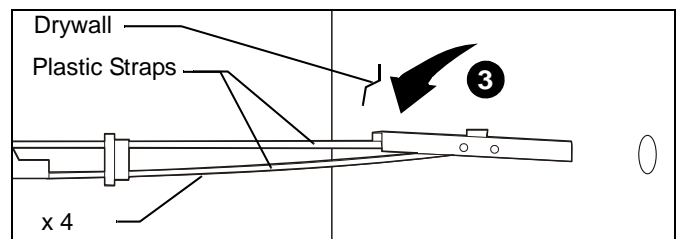

Figure 5
3. Hold metal channel on Toggler® 1/4-20 (BB) Snap-Toggle (not included) flat alongside plastic straps and slide channel through hole. (See Figure 5)